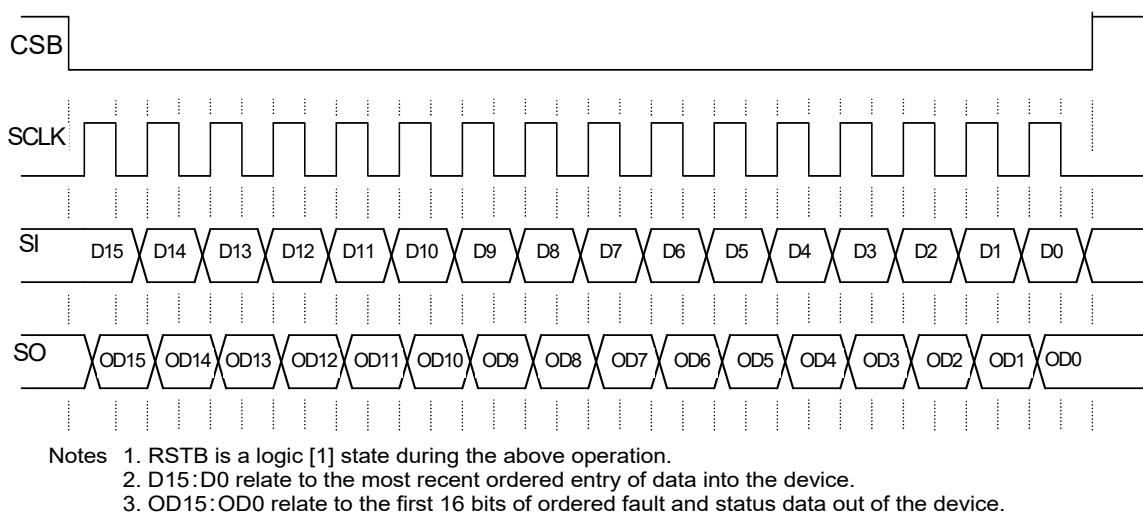

Figure 10. Single 16-Bit word SPI Communication
The SCLK pin clocks the internal shift registers of the 09XS3400 device. The serial input (SI) pin accepts data into the input shift register on the falling edge of the SCLK signal while the serial output (SO) pin shifts data information out of the SO line driver on the rising edge of the SCLK signal. The SCLK pin should be in a logic low state whenever CSB makes any transition. For this reason, it is recommended the SCLK pin be in a logic [0] whenever the device is not accessed (CSB logic [1] state). When CSB is logic [1], signals at the SCLK and SI pins are ignored and SO is tri-stated (high-impedance) (see Figure 10). SCLK input has an active internal pull-down, I_{DWN} .
5.2.8 Serial Input (SI)